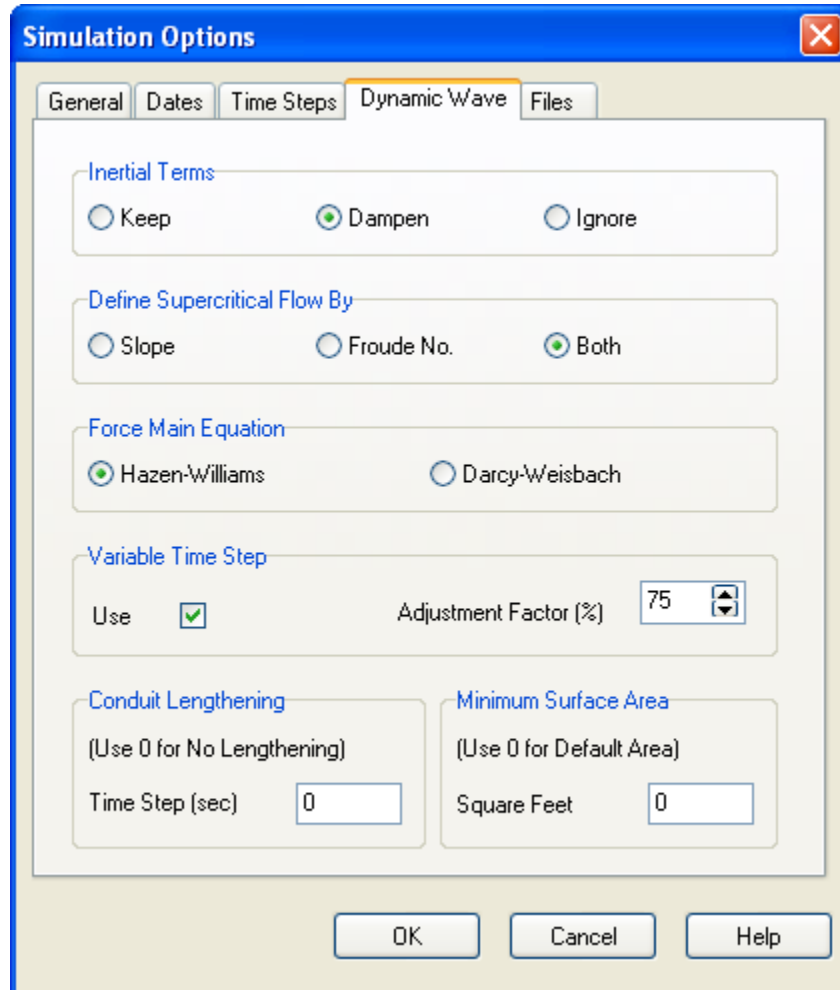

Figure 2-16. Dynamic Wave simulation options.
3. On the Dynamic Wave page of the dialog, use the settings shown in Figure 2-16¹⁰.